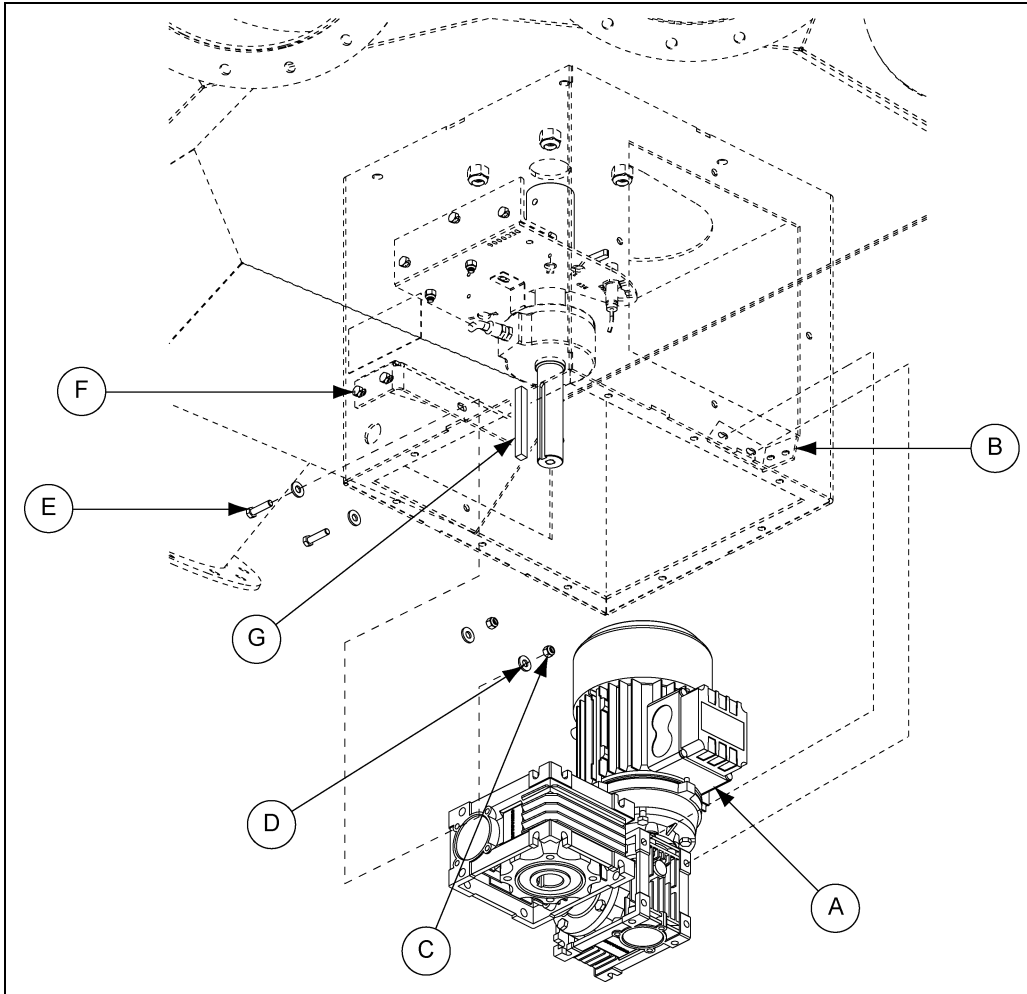

Figure 6M Control Motor Installation
Install the motor (A) to the motor mounting bracket (F) using two (2) 1/4"-20 x 1" HHCS bolts (S-6998), four (4) 1/4" washers (D) and two (2) 1/4"-20 nylock nuts (C) as shown in Figure 6M.
Install second motor mounting bracket (B) to the enclosure (DEC0005) using two (2) 1/4"-20 x 3/4" HHCS bolts (E), 1/4" washers (D) and 1/4"-20 nylock nuts (C). Then install the motor to the motor mounting bracket (B) using two (2) 1/4"-20 x 1" HHCS bolts (S-6998), four (4) 1/4" washers (D) and two (2) 1/4"-20 nylock nuts (C) as shown in Figure 6M.